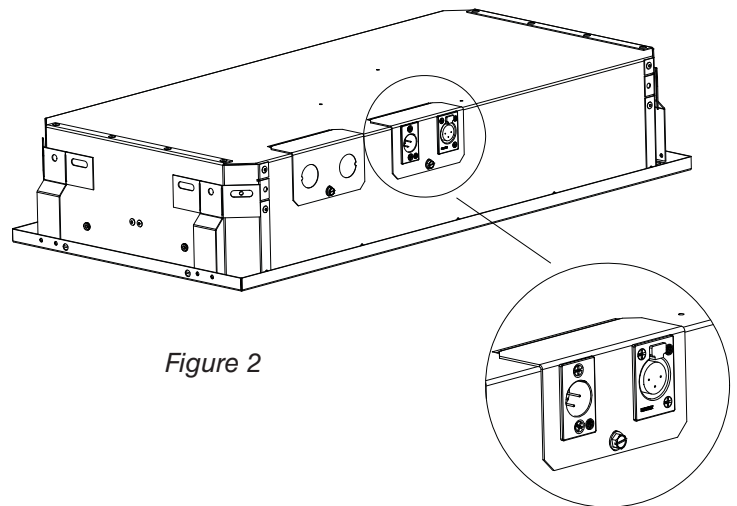

Figure 2
3. If the fixture requires digital control, the fixture will have locking XLR-type plugs for the control cables. Install the control wiring above the T-bar grid. Male and female plugs are installed into receptacles (Figure 2) on each fixture; as they are wired in parallel, the control wiring can be daisy-chained. See the Control Wiring section.
5. Place the fixtures into the correct openings in the ceiling grid in accordance with plans provided by Brightline or the local architect or engineer. Brightline fixtures are not Insulated Ceiling (IC) rated. Maintain the proper distance from insulation.